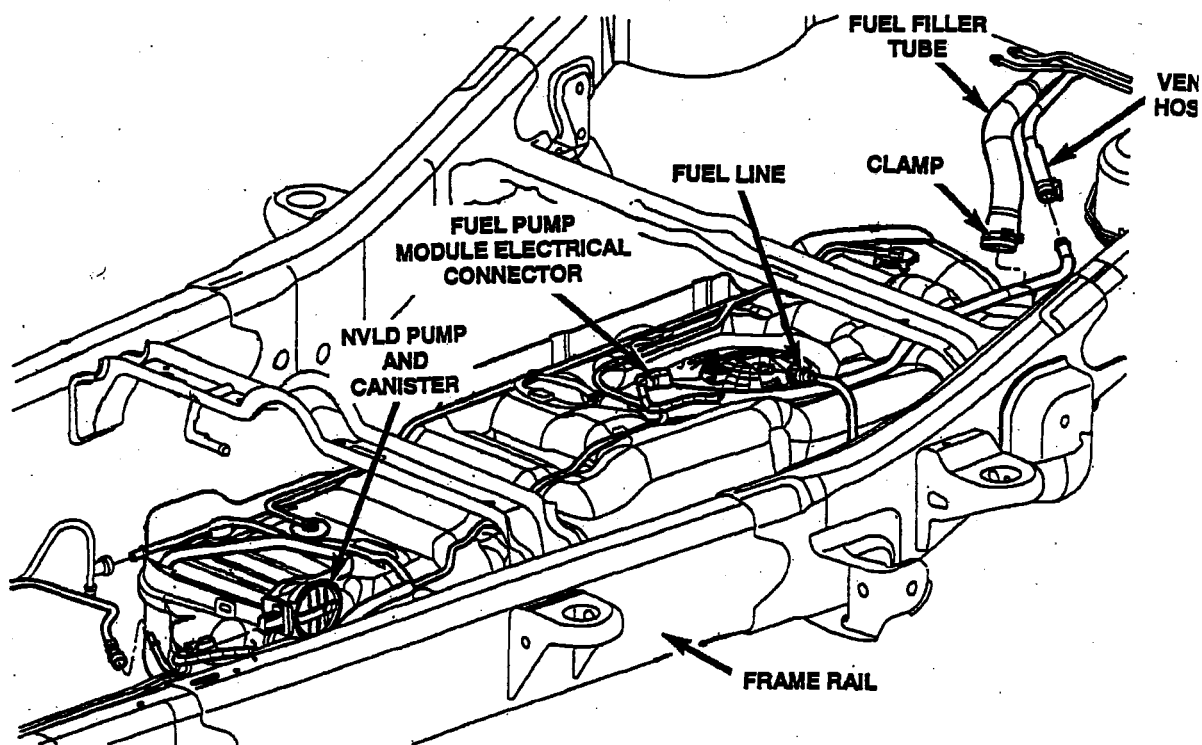

Figure 8
- d. Loosen the clamp and disconnect the rubber fuel filler tube at the gas tank fitting (Figure 8).
29. Position and tighten the fuel filler tube hose clamps (Figure 8).
30. Connect the fuel tank vent hose located next to the fuel fill tube (Figure 8).